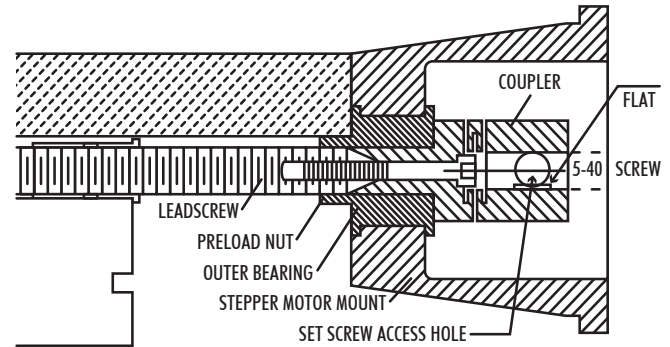

FIGURE 4—A cross-section of the stepper motor mount shows how the coupler is attached to the leadscrew.
1. Before you start, look at the cross-section view in Figure 4 and at the exploded view for the parts list. One of the most important parts of the assembly is to be sure that the preload nut is installed with the counter bore facing the bearing.
4. Using a 3/8" wrench, adjust the preload nut snugly against the end of the bearing. Tighten it enough to remove all endplay. (See Figure 4 to understand how the nut preloads the bearings.) Turn the coupling by hand to make sure it turns freely, then put a little LocTite® on the threads behind the preload nut and let capillary action draw the fluid in.